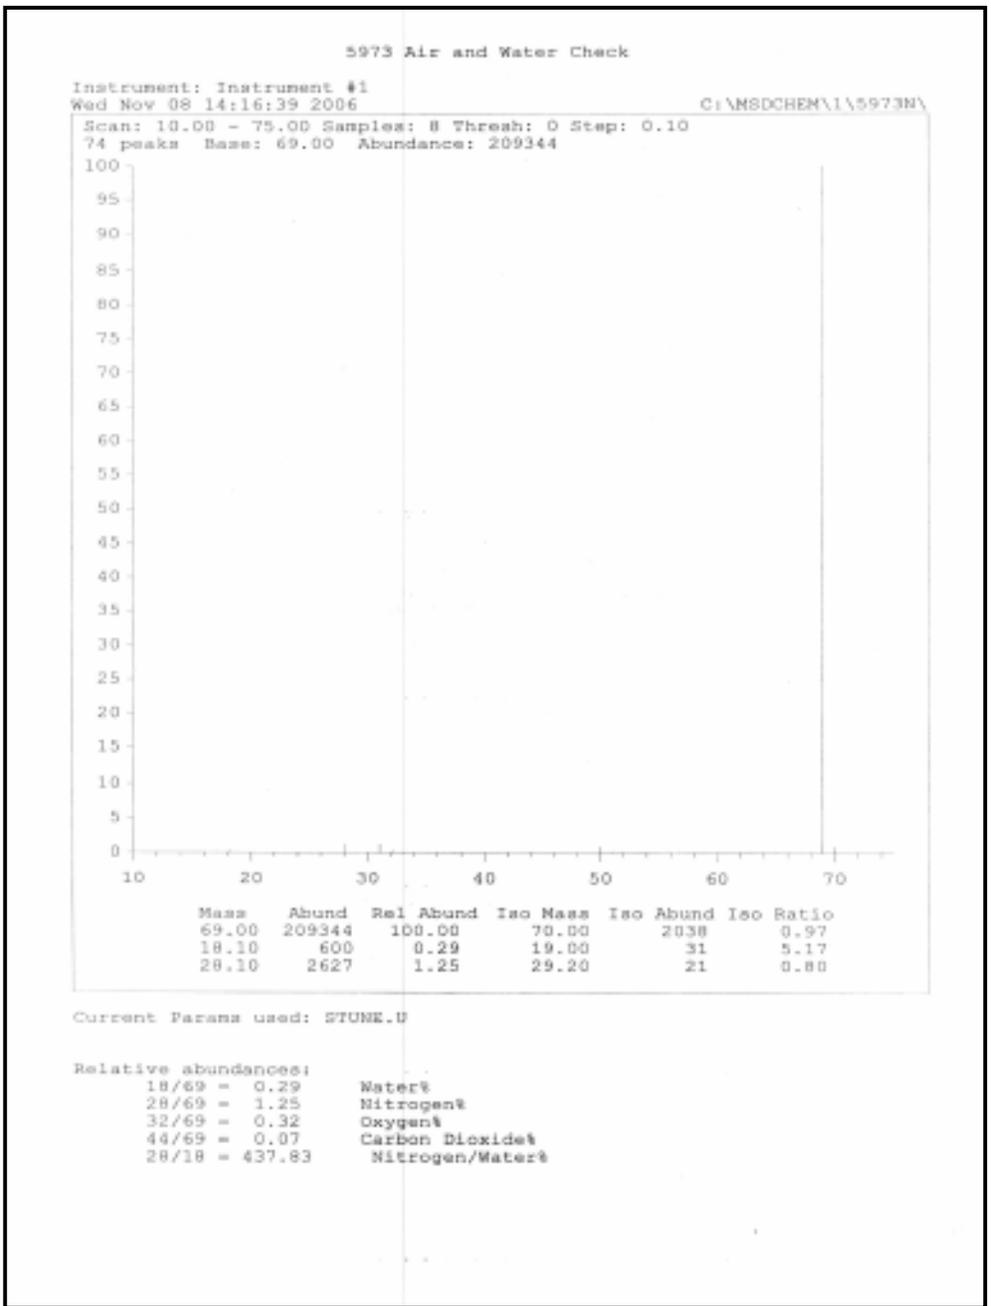

Figure 3. Example of an acceptable air and water check report
- The software program will generate a water/air report similar to figure 3.